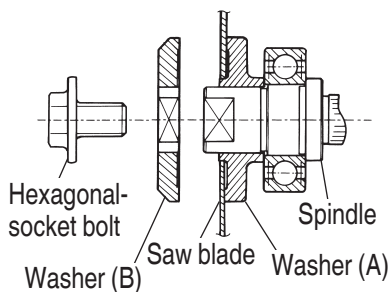

Fig. 13
- (1) Thoroughly remove any sawdust which has accumulated on the spindle, bolt and washers.
- (2) As shown in **Fig. 13**, the side of Washer (A) with a projected center the same diameter as the inner diameter of the saw blade and the concave side of Washer (B) must be fitted to the saw blade sides.
- (3) To assure proper rotation direction of the saw blade, the arrow direction on the saw blade must coincide with the arrow direction on the saw cover.
- (4) Using the fingers, tighten the hexagonal-socket bolt retaining the saw blade as much as possible. Then depress the lock lever, lock the spindle, and thoroughly tighten the bolt.